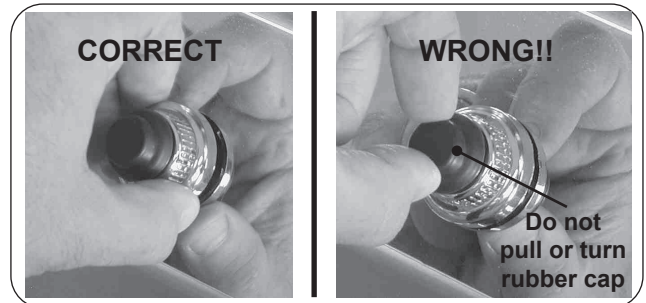

Fig. 32-3 Remove igniter cover
**Important:** Do not attempt to pull or turn the rubber cap (see Fig. 32-3).